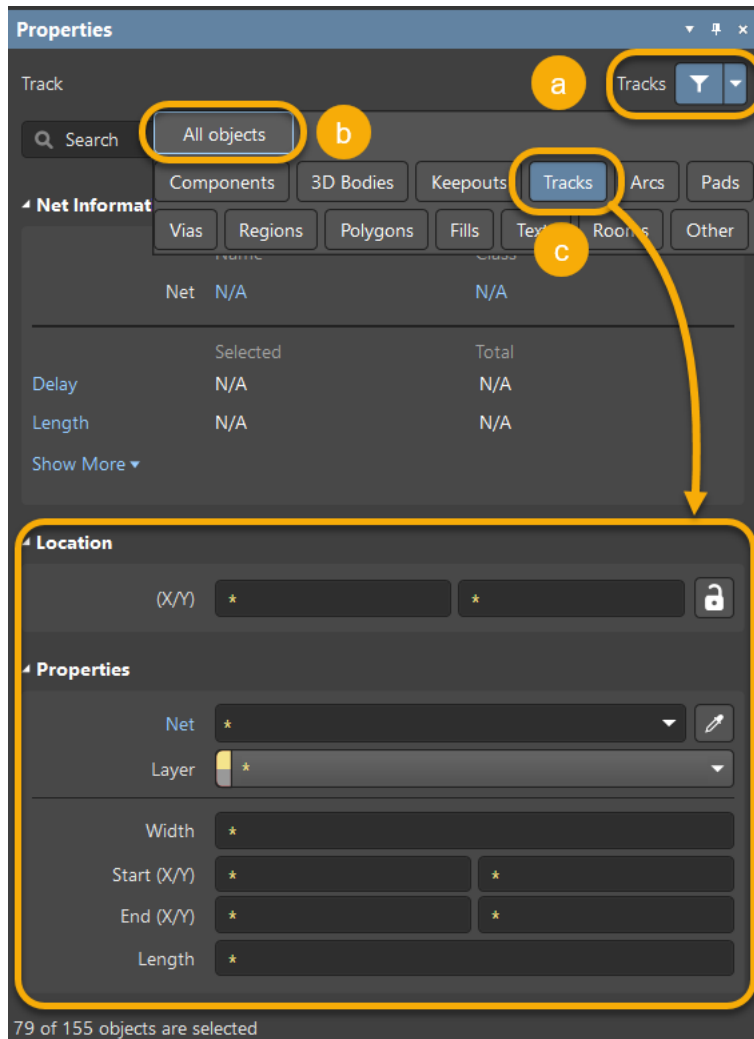

Figure 4. Properties panel with the post-selection filter set to Tracks only
- As of right now, both tracks and pads are currently selected. Let's change the *Post-Selection* filter to only select tracks by clicking on the drop-down arrow beside the *Post-Selection Filter* button, in the top-right of the *Properties* panel as shown in Figure 4.
- Ensure to only click **Tracks** from the *Post-Selection* filter (refer to Figure 4).